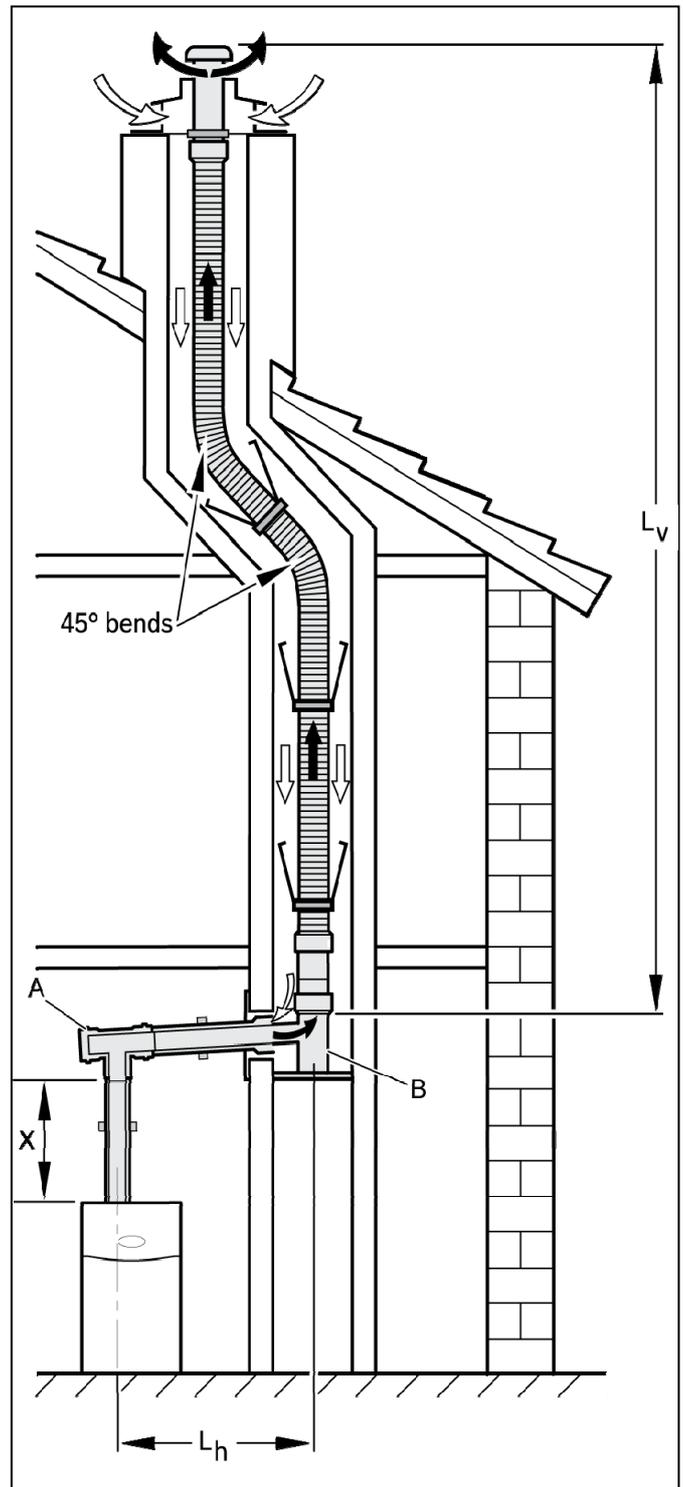

Fig. 1: Image of flue position and length.
The flexible flue system for use on the Greenstar FS CDi Regular boilers has a maximum vertical length of 12m, which can be cut to suit. The solid concentric section including the tee piece of the flue system can be raised as in the diagram Fig: 1 dimension (X). This can be achieved by using a concentric flue extension, part number 7719 003 666 which will attach to the flue adaptor.
2 x 45° bends (as Fig 1) = 3m